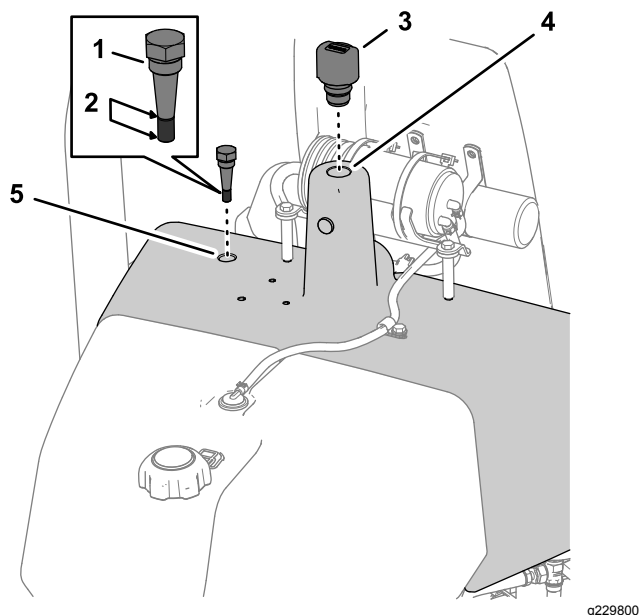

Figure 50
3. Unscrew the dipstick located at the top of the hydraulic tank, wipe the dipstick clean, install it, and remove it again (Figure 50).
4. If no oil is present on the dipstick, remove the cap from the filler neck of the hydraulic fluid tank (Figure 50) and slowly add the specified hydraulic fluid to the hydraulic tank until the fluid level is at the groove dipstick; refer to Hydraulic Fluid Specification (page 39).
5. Install the dipstick and the breather into the hydraulic tank (Figure 50).